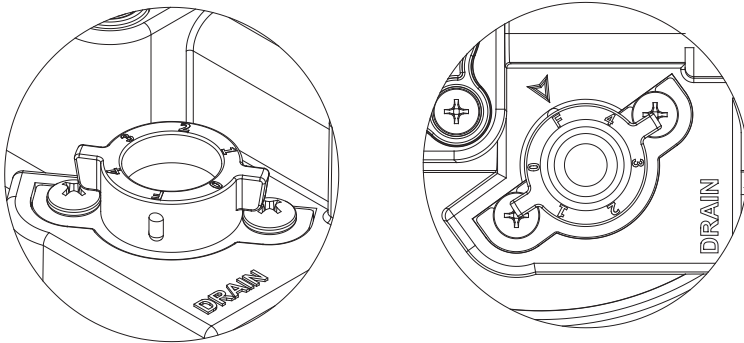

Figure 12
- Open the Ultrefiner Elite faucet and turn the drain barrel to the fast flush ("F" on the drain barrel) position (see Figure 12).
While refilling your storage tank, turn the Drain Dial to the F position. (See Figure 12 on Page 13.) This will increase the volume of drain water flushing through the membrane. Once your tank has refilled (typically 2-3 hours), the Drain flow will shut off. You should then turn the Drain Dial back to its previous setting.
6. Once assembled, turn the drain barrel to F position. (see Figure 12 on page 13).